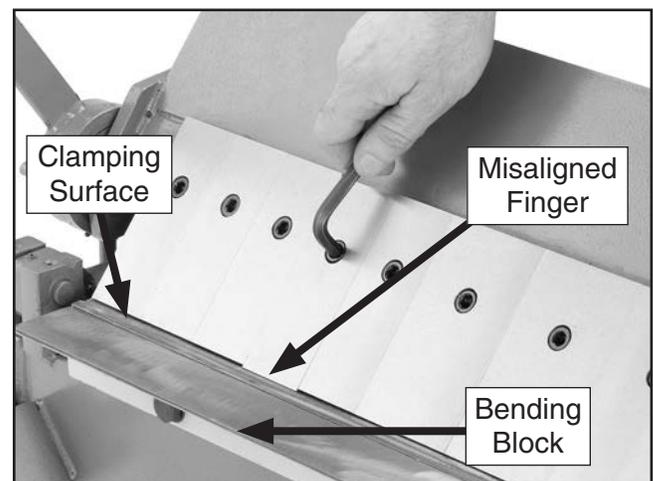

Figure 13. Example of a misaligned clamping finger.
1. Lower clamping leaf until clamping fingers just touch clamping surface (see **Figure 13**).
2. Look closely along bottom edge of each finger to determine if any are out of alignment with clamping surface and bending block, as shown in **Figure 13**.